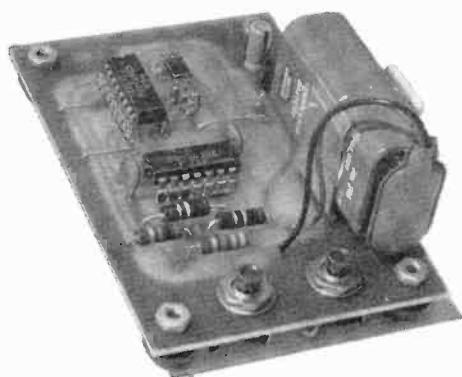

**Fig. 3.** Actual size foil pattern for a single die and the component installation. Take care in handling COSMOS IC's. They can be damaged by static electricity.
**Construction.** The components for a single die can be mounted on a PC board such as that shown in Fig. 3. Sockets may be used for the IC's, and Molex pins for the LED, though they can be soldered in place. Care should be used when handling the IC's. Although they have built-in diode protection, the oxide gate-insulating layer can be destroyed by static electricity. Contact with the foam plastic conventionally used to